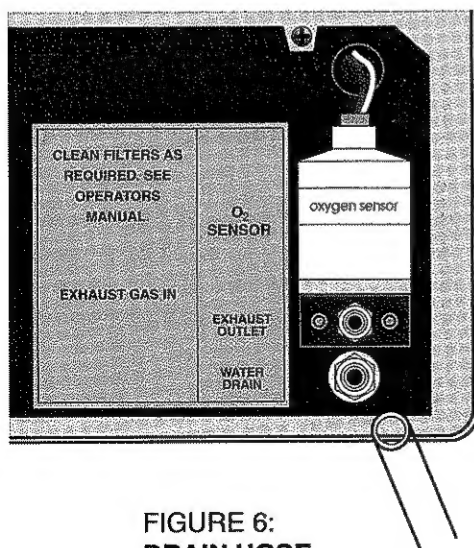

FIGURE 6:
1. Push one end of the hose onto the barbed **WATER DRAIN** fitting located in the lower right corner of the rear panel of the analyzer. See FIGURE 6.